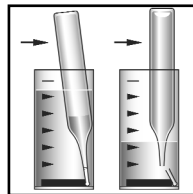

Figure 2
2. Place the CHEMet ampoule in the sample cup. Snap the tip by pressing the ampoule against the side of the cup. The ampoule will fill leaving a small bubble to facilitate mixing (fig 2).